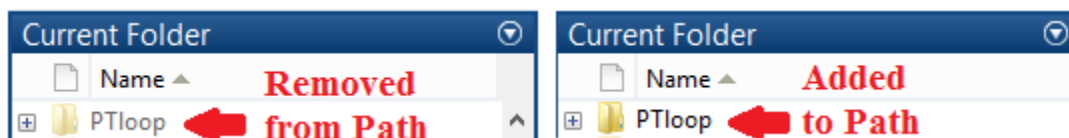

Figure 6.
1. Make sure that the folder containing the main program (PTloop.p) is added to your MATLAB path (Fig. 6).